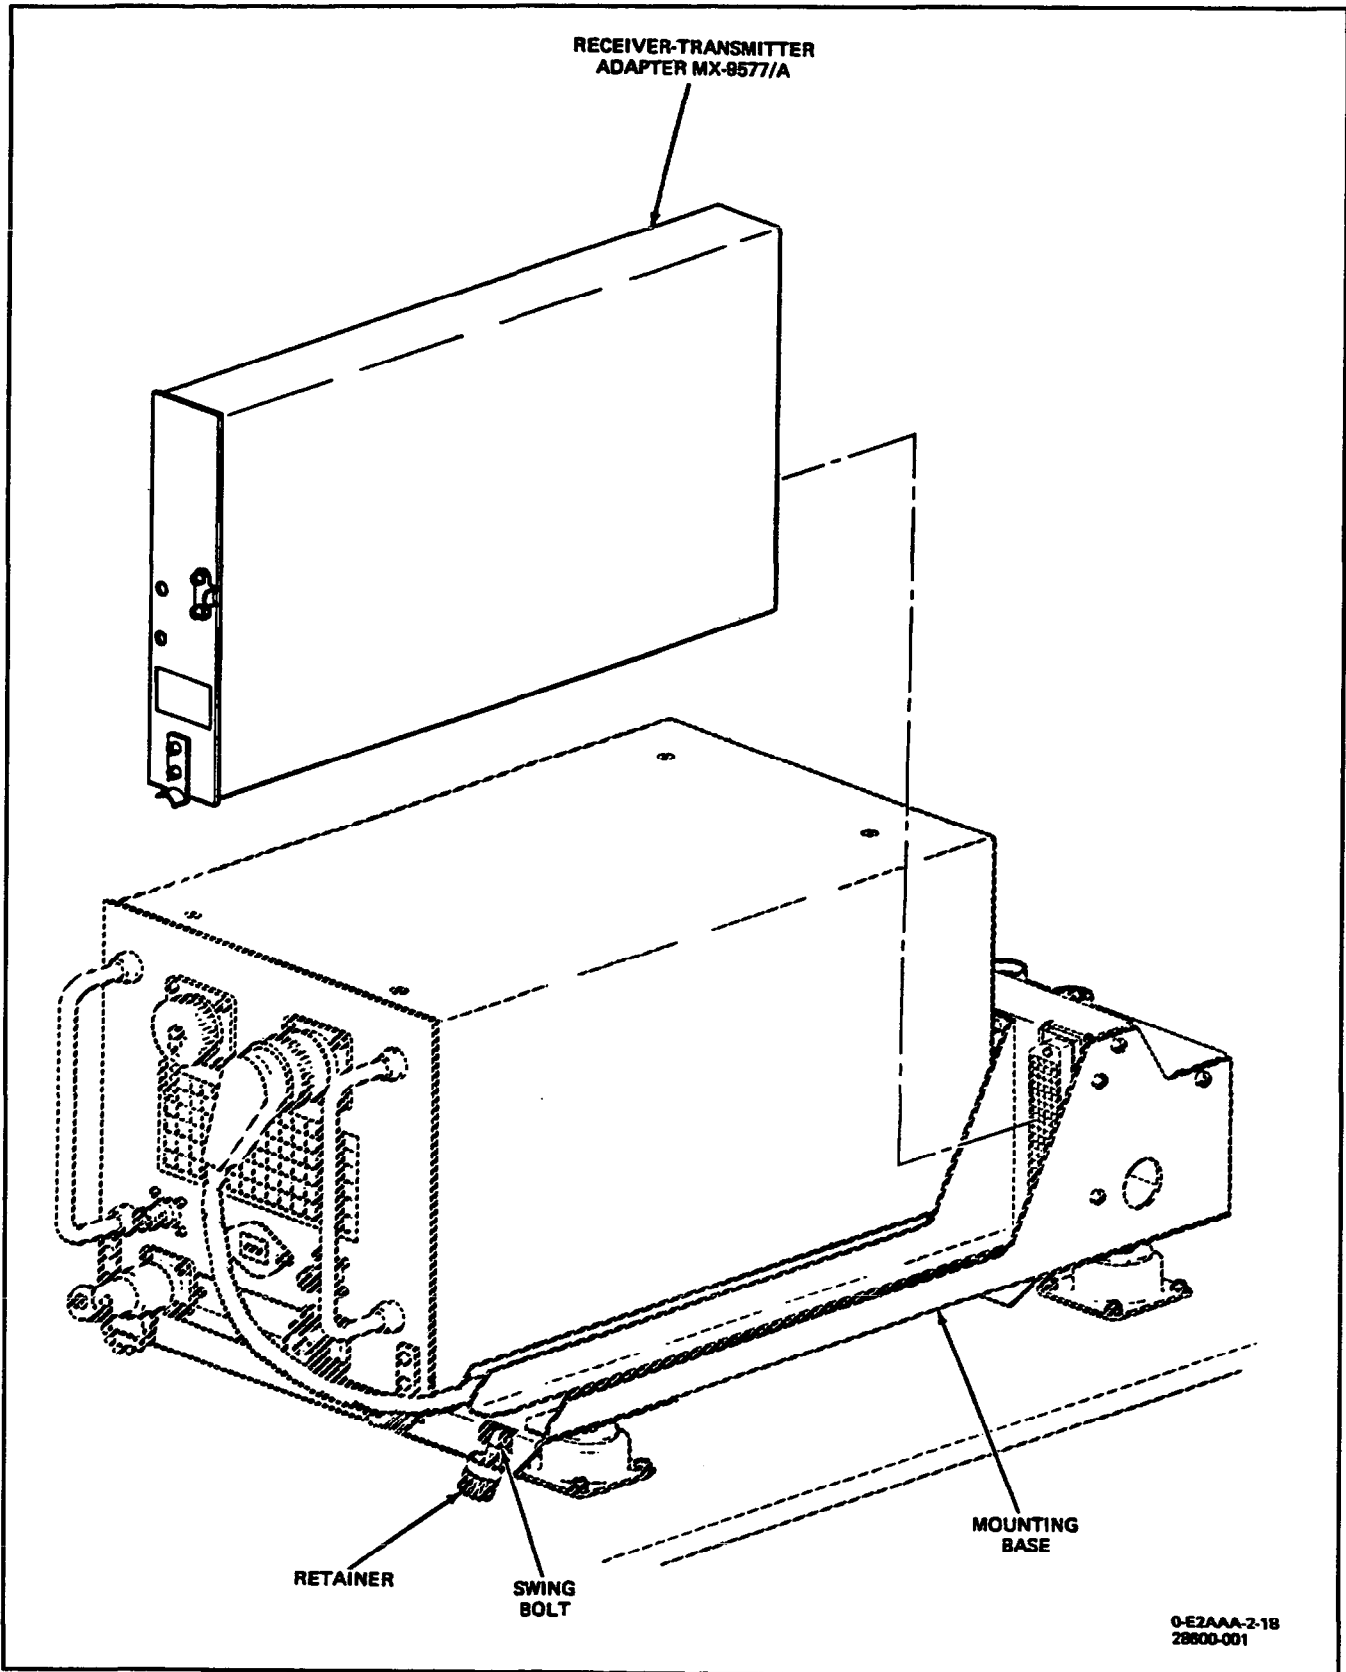

Figure 1. Removal and Installation of Receiver-Transmitter Adapter MX-9577/A
**3. REMOVAL.** (See figure 1.)
**4. INSTALLATION.** (See figure 1.)